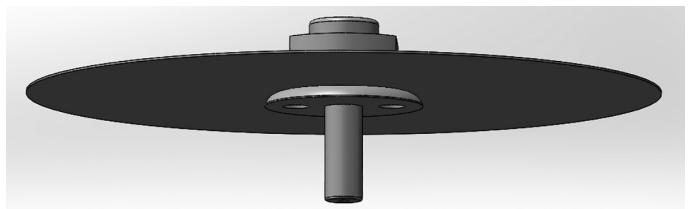

Figure 2
1. Remove adjusting screw assembly (8) completely out of the spring housing (6).
2. If valve is removed from the line, clamp the valve in a vise using the body (14).
3. Remove diaphragm casing bolts (13), spring housing (6) and upper diaphragm casing (2).
4. Remove range spring (12) and spring seat (5).
5. Remove diaphragm assembly parts (1), (3), and (4). See Figure 2.
7. Remove seat holder (9), seat (10) and plug (7) from body (14).
8. Place new plug (7) into body chamber. Make sure the bottom stop rod (bigger end) of the plug (7) goes down inside the return spring (14).
9. Place the new seat (10) into the seat holder (9) and carefully install into body cavity (14) taking care not to bend the narrow rod on top of the plug (7) when it passes through the seat holder (9). Tighten 30° past contact.
10. Refer to Figure 2. Unscrew the lower diaphragm plate (1) from the upper diaphragm plate (4). Discard the old diaphragm (3) and reassemble with new one. Use Lowflow replacement diaphragm only. Place diaphragm assembly parts (1), (3), and (4) back into body cavity (14), making sure the small counterbore on the bottom of lower diaphragm plate is properly engaged with the narrow tip of the plug (7) which protrudes through the seat holder (9).
11. Replace range spring (12), spring seat (5), centering both on top of the upper diaphragm plate (4). Replace housing (6), upper diaphragm casing (2), diaphragm casing bolts (13), and adjusting screw